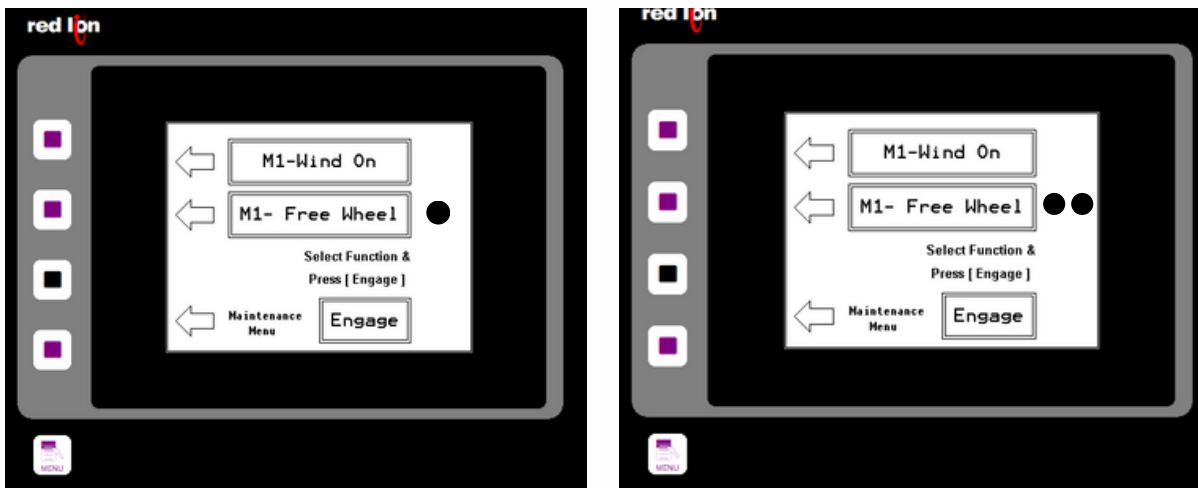

Figure 5.5. Selecting M1 free wheel on the deck service box
- 6 Select M1 capsule and press M1 – free wheel and wait a few seconds for a black circle to appear on the right, then press engage and wait a few seconds for a second black dot to appear alongside the first one (Figure 5.5). Now press the cycle button (the capsule needs to be trailing the stern of the vessel by at least 5 metres).